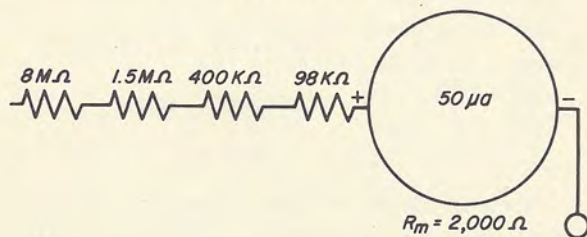
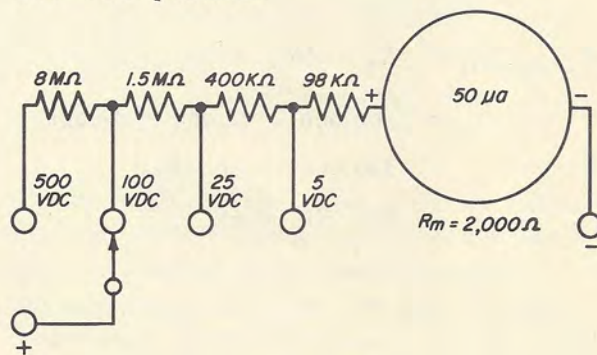
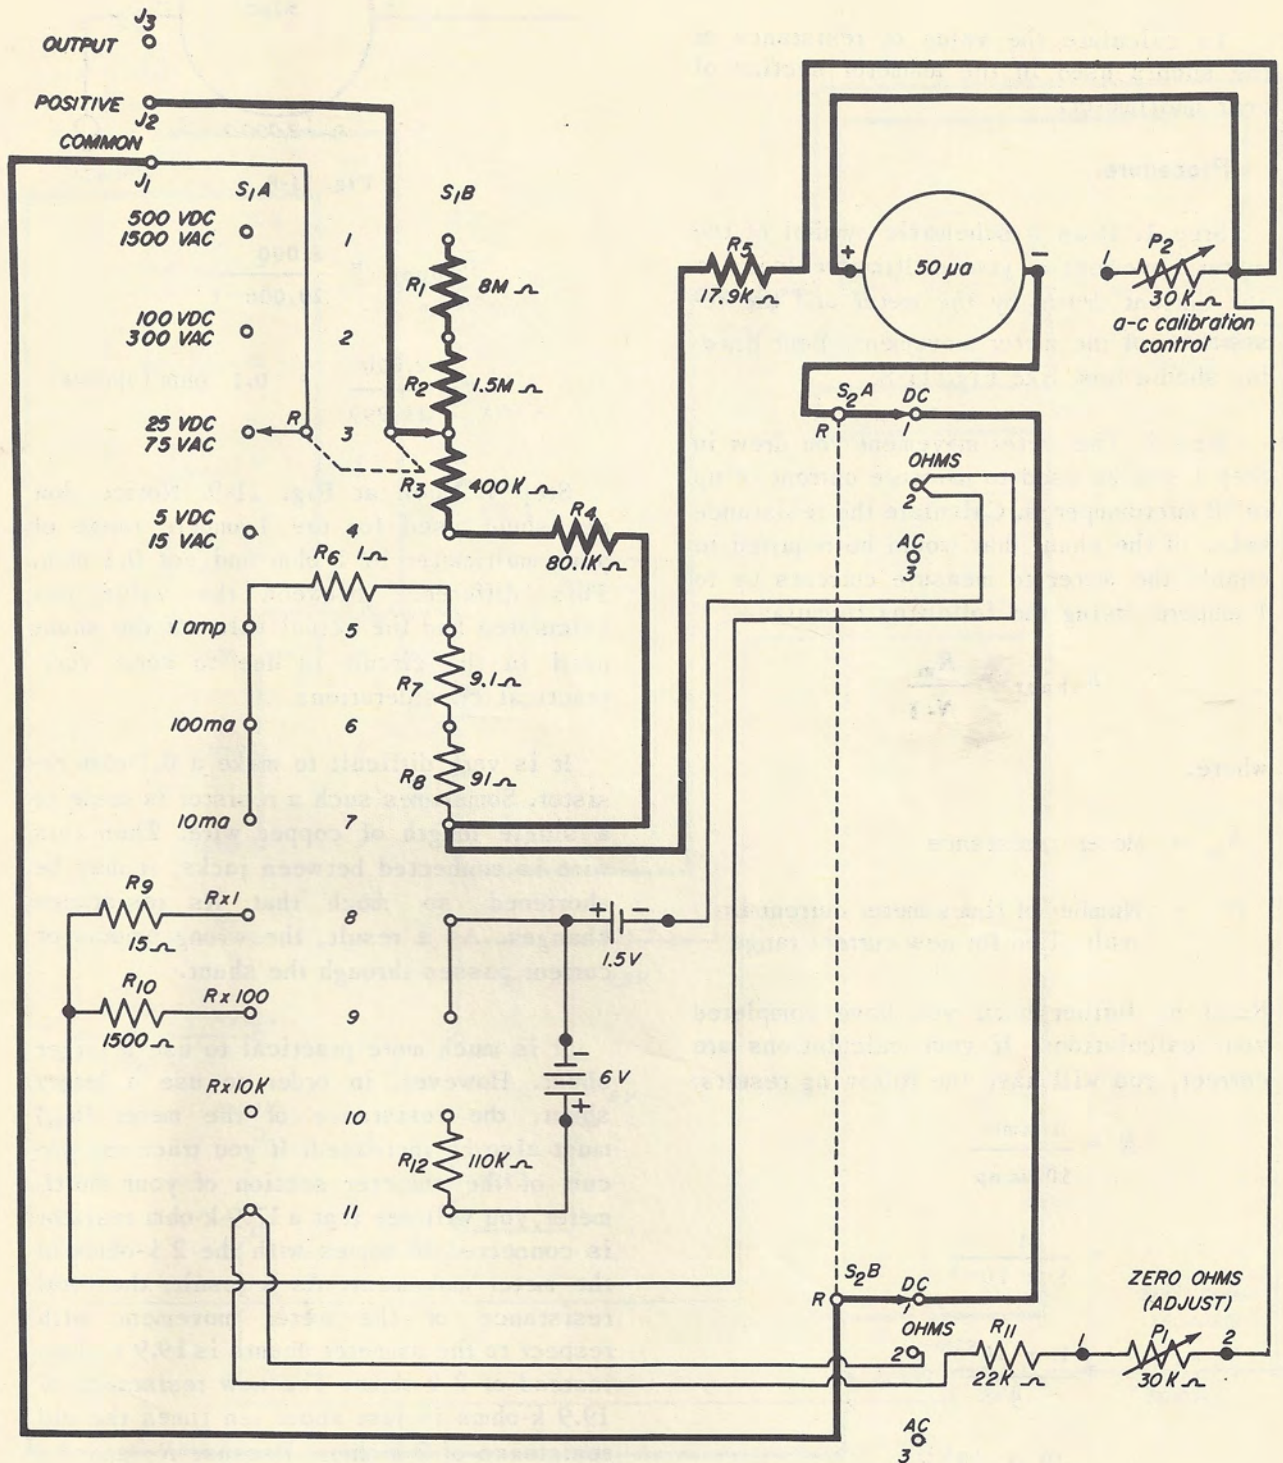

Fig. 11-5
Fig. 11-7
Fig. 11-6
Step 10. Draw on your schematic a multiplier with the resistance you calculated in Step 7. Your drawing should now look like Fig. 11-5.
**Discussion.** You have calculated the resistance values of the multipliers that are used in your meter. If you compare Fig. 11-5 with the schematic diagram of your multimeter shown in Fig. 11-6, you will see that the total resistance value of the multipliers used in both circuits is the same. However, you will note one difference; the circuit shown in Fig. 11-6 uses two resistors for the 98 k-ohm multiplier. The 98 k-ohm multiplier is so divided because of certain features of the ammeter section, which will be discussed later in this lesson.
Figure 11-6 shows the switch used to connect multipliers into the meter circuit. Another way of showing this switch (actually a simplified way of showing it) can be seen in Fig. 11-7. In the figure, the switch is in a position that connects the 98 k-ohm, 400 k-ohm, and 1.5-megohm multipliers into the circuit. With these multipliers in the circuit, the voltmeter section of your multimeter is set to the 100 VDC range. Moving the switch arm to the right cuts out multipliers and lowers the voltage range. For example, if the switch arm were moved so that it was between the 1.5 megohm multiplier and the 400-k ohm multiplier, the 1.5-megohm multiplier would be out of the voltmeter circuit and the switch would be in the 25 VDC position. Moving the switch to the left would add the 8-megohm multiplier to the circuit and, therefore, the switch would be in the 500 VDC position.